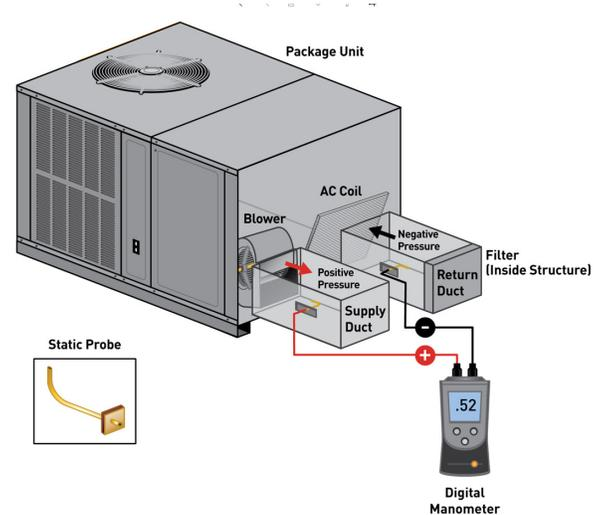

FIGURE 11: TOTAL EXTERNAL STATIC
1. Using a digital manometer measure the static pressure of the return duct at the inlet of the unit (Negative Pressure). SEE FIGURE 11: TOTAL EXTERNAL STATIC.